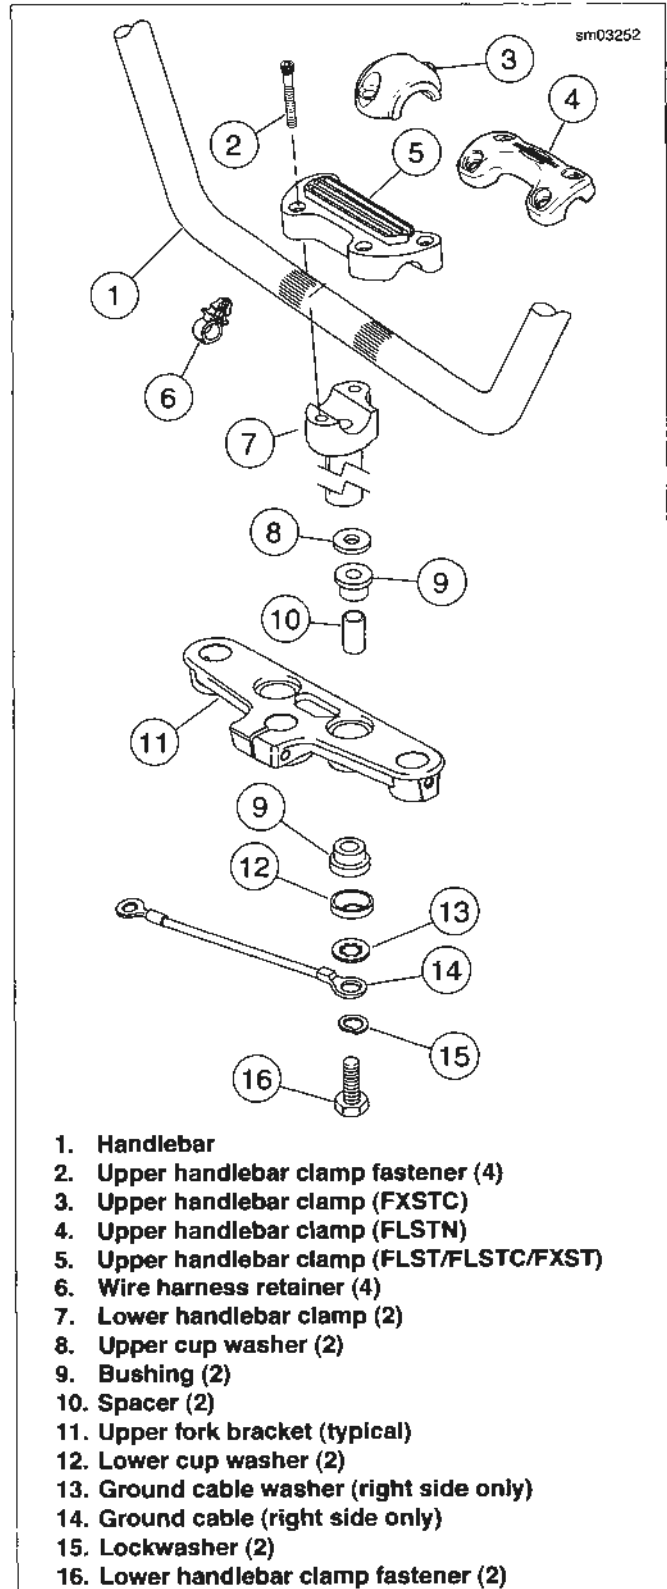

Figure 2-93. Handlebars: All but FLSTF/FLSTFB/FXCWC
6. See Figure 2-93. Remove upper handlebar clamp fasteners (2).
- a. **FLST/FLSTC/FXST**: remove upper handlebar clamp (5).
- b. **FLSTN**: remove upper handlebar clamp (4).
- c. **FXSTC**: remove upper handlebar clamp (3).
7. Remove handlebar (1).
8. If removing lower handlebar clamps (7), remove two lower handlebar clamp fasteners (16), lockwashers (15), ground cable (14) and ground cable washer (13) and lower handlebar clamps from upper fork bracket (11). Replace bushings (9) if necessary.
1. See Figure 2-93. If lower handlebar clamps (7) were removed, install lockwashers (15) on lower handlebar clamp fasteners (16). Install ground cable (14) and ground cable washer (13) on right-side fastener.
- a. Hand tighten two front screws (4).
- b. Tighten rear fasteners (3) to 12-15 ft-lbs (16.3-20.3 Nm).
- c. Final tighten two front screws (4) to 12-15 ft-lbs (16.3-20.3 Nm). Slight gap between upper and lower clamps should exist at front.
8. See Figure 2-93. Tighten lower handlebar clamp fasteners (16) to 30-40 ft-lbs (40.7-54.3 Nm).